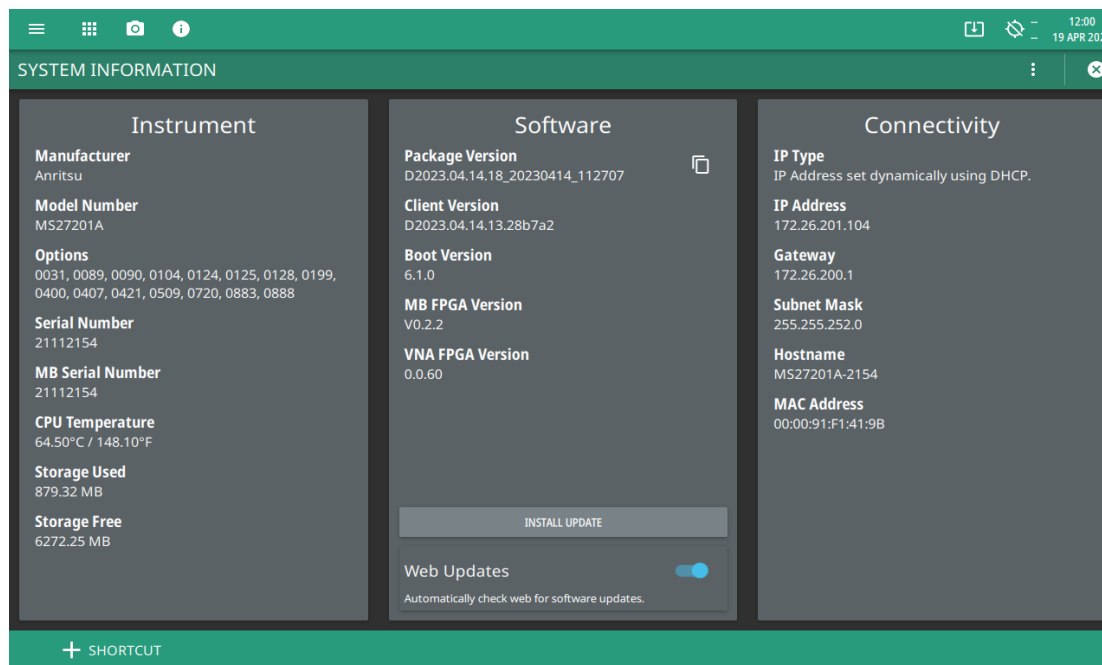

Figure 2-54. System Information Menu
4. Select the System Information menu (see Figure 2-54).